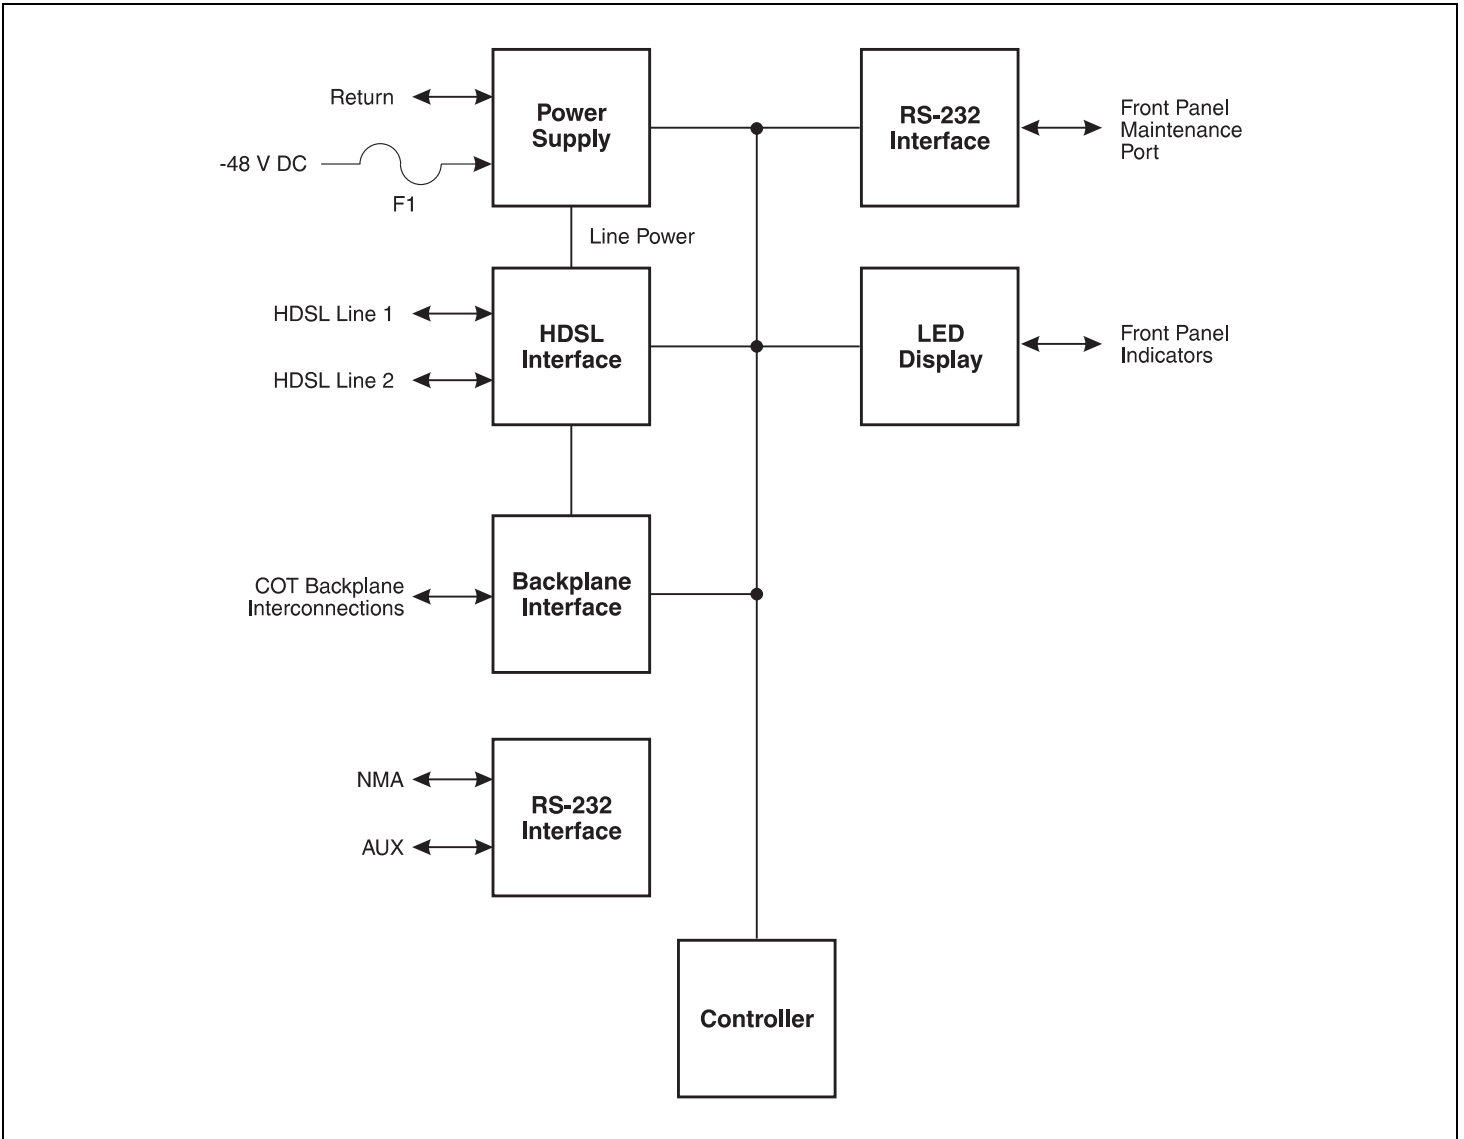

Figure 3. FRL-742 Block Diagram.
6.01 The FRL-742 RT Line Unit includes a remote (line-powered) power supply, HDSL line transceivers, performance status indicators, and RS-232 Maintenance Port (see Figure 3). Through the Maintenance Port, the system configuration and status may be checked and HDSL performance monitored. Changes to the system configuration and or test access cannot be made through the RT line unit.